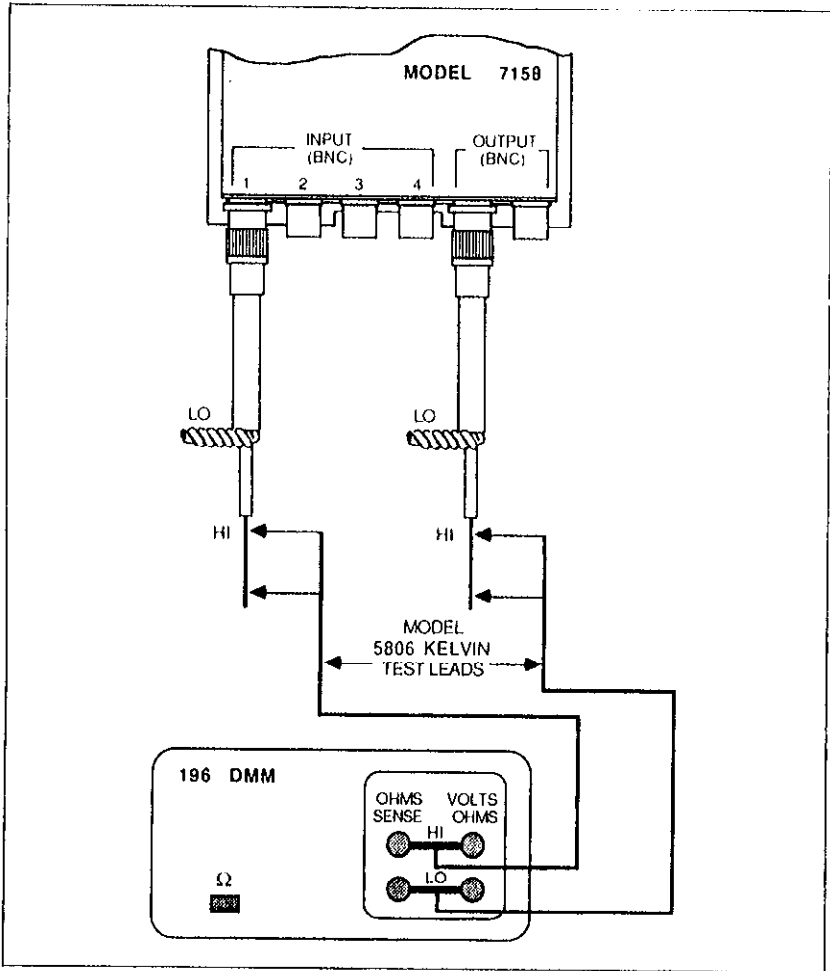

Figure 3-3B. Contact Resistance (Signal HI to Output HI Relays)
8. Connect one of the BNC plugs to an input connector and the other BNC plug to an output connector. Connect the Kelvin leads to the coax pigtails as shown in Figure 3-3B.